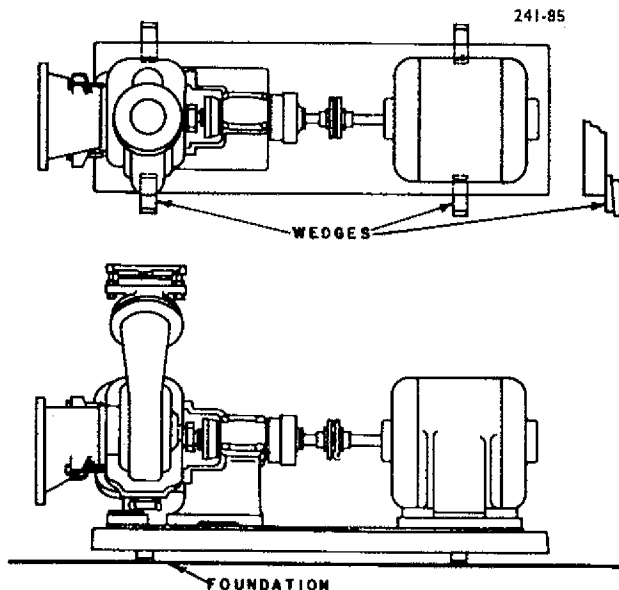

Fig. 2
- (a) Put the pumping unit in place on the wedges furnished. The wedges should be placed at four points, two below the approximate center of the pump and two below the approximate center of the driver. (See Fig. 2.) Some installations may require additional wedges near the middle of the bedplate.